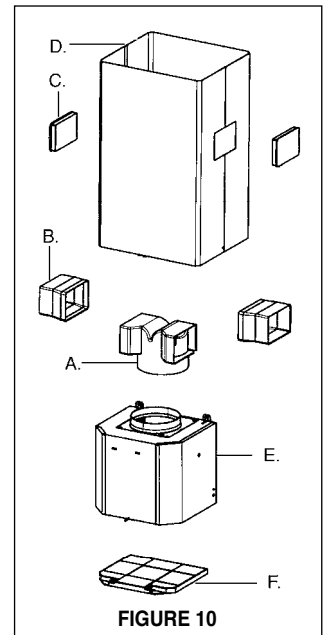
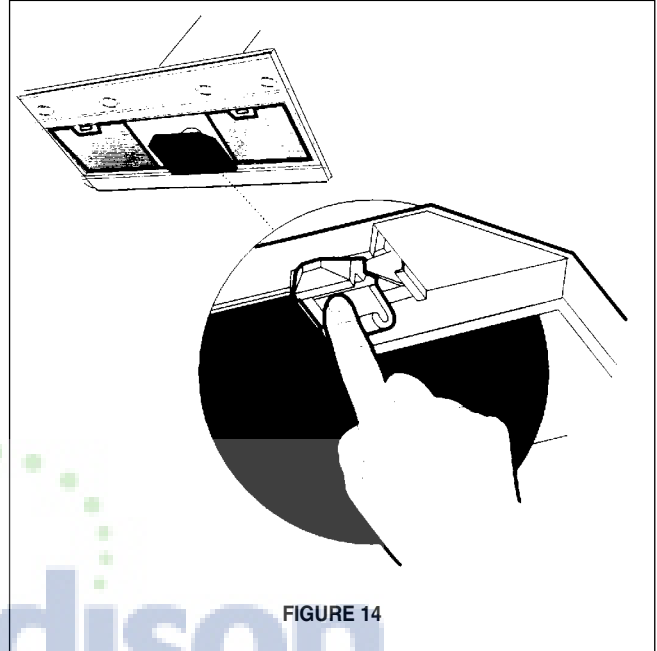

FIGURE 10
FIGURE 14
Ductless installations require a **Ductless Conversion Kit** whose components are pictured in FIGURE 10. Do not use the DAMPER (N in FIGURE 1) for ductless installations. The LOWER CHIMNEY COVER (B in FIGURE 1) should be discarded and replaced by the new one with holes from the **Ductless Conversion Kit** (D in FIGURE 10).
As indicated in FIGURE 10, place the DUCTLESS DIVERTER (A) over the exhaust opening of the EASY CUBE (E). Fit the DUCTLESS DIVERTER EXTENSIONS HORIZONTAL (B) into the DIVERTER (A).
For ductless installations, line up the DUCTLESS DIVERTER EXTENSIONS HORIZONTAL (B in FIGURE 10) with the holes in the LOWER CHIMNEY COVER (D in FIGURE 10) and snap in the VENT GRIDS (C in FIGURE 10).
- For ductless installations, install the CHARCOAL FILTER (F in FIGURE 10) behind the center grease filter opening by inserting and locking into place. See FIGURE 14